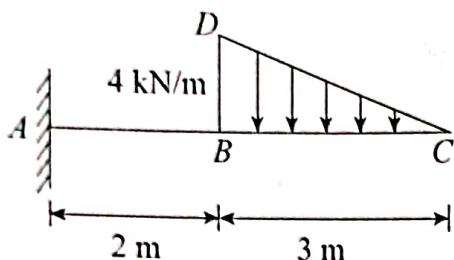

Figure 6.22
- 6.8 Draw SF and BM diagrams for loaded cantilever as shown in Fig. 6.22 and indicate position and value of maximum BM.